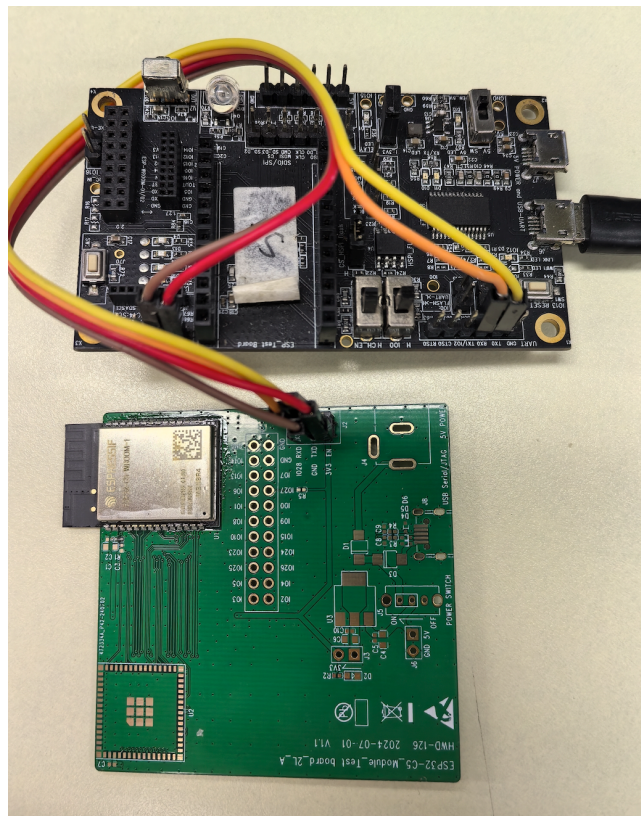

Figure 2: Hardware Connection
1. Solder the ESP32-C5-WROOM-1U module to the RF testing board as shown in Figure 2.